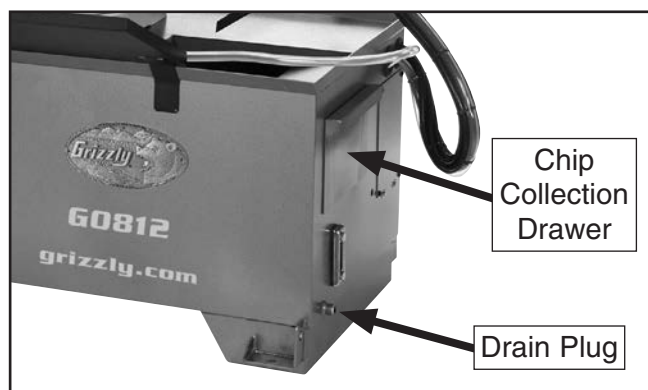

Figure 79. Coolant drain plug location.
2. Remove chip collection drawer (see **Figure 79**) from coolant tank.
3. Remove drain plug (see **Figure 79**), empty tank contents into drain pan, and dispose of fluid following federal, state, and fluid manufacturer requirements.